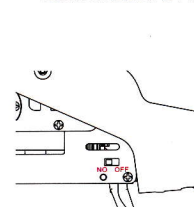

Fig.1
- 1.Push the helicopter switch to OFF. (Fig.1)